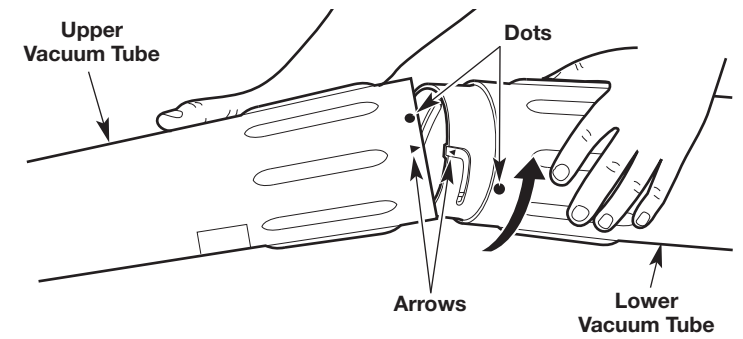

Fig. 8
2. Align the arrow on the lower vacuum tube with the arrow on the upper vacuum tube (Fig. 8).
3. Insert the lower vacuum tube into the upper vacuum tube (Fig. 8).
4. Twist the lower vacuum tube clockwise with both hands until it locks into place (Fig. 8).
**NOTE:** When properly assembled, the dot on the lower vacuum tube should align with the dot on the upper vacuum tube (Fig. 8).